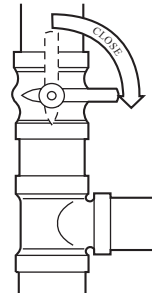

Fig. 5 - Close Valve
- Turn **off** electrical supply to the furnace. (See Fig. 5.)